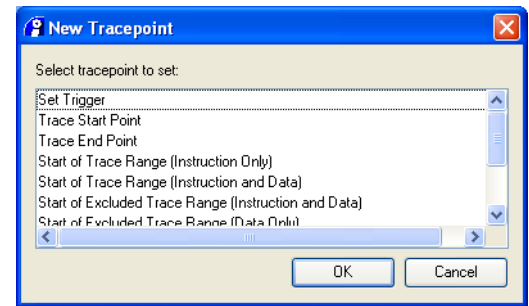

Figure 6-2 New Tracepoint dialog box
2. Select **Insert Tracepoint...** from the context menu to open the New Tracepoint dialog box. Figure 6-2 shows an example: